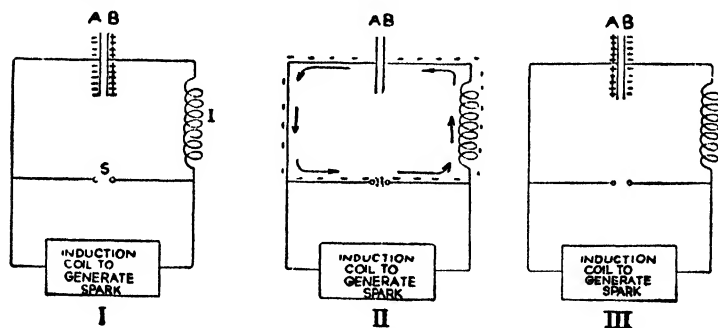

FIG. 316. —The old fashioned spark-transmitter.
rush backwards and forwards from 30,000 to 3,000,000 times a second, is the old-fashioned spark transmitter. Fig. 316 shows it in a very simple form. Wireless waves are generated by an electron moving back and forth along a wire. The frequency of the wave depends on the time of travel.
Suppose the induction coil is set to work. It crowds electrons into the left-hand side of the apparatus and draws them out of the right-hand one. The attraction of the positively charged plate (B) of the condenser assembles a great multitude of electrons on the negative plate (A) (Fig. 316, I). As the electrons accumulate on the left, a time comes when their mutual repulsion is too great and they leap the spark gap and rush round the wire to B. (Fig. 316, II). But, just like a pendulum falling, they over-reach themselves and pile up at B (Fig. 316, III). They then repel each other as badly as before and so rush back across the spark gap to A. The electrons thus rush back and forth along the wire and, in doing so, will generate a wave. Now, the frequency of this wave will depend on the number of journeys the electrons will do each second, i.e., on the time between successive journeys from A to B.